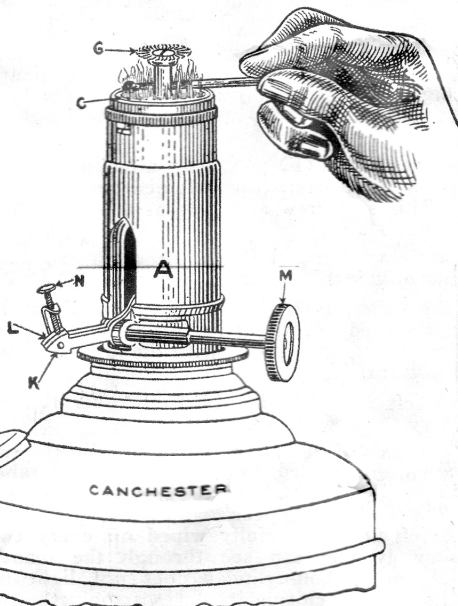

FIG. 3
5. TO LIGHT. (SEE FIG. 3.) Set the movable indicator (K) straight in line with the stationary indicator (L). Now light a match, letting it blaze up fully, and apply between the top of the carbon-cylinder and the spreader, lighting the inside of the carbon-cylinder all around. By holding the match in position shown in Fig. 3, the carbon-cylinder will light immediately. Allow it to burn about a minute until the flame has risen about four inches, then turn flame low and place the chimney holder with mantle and chimney on burner tube (A), sliding it down carefully, without jarring, as far as it will go.
6. TO REGULATE. After lighting, the mantle will not appear bright immediately but the gas will increase as the burner becomes hotter, and the mantle will gradually brighten to its full incandescence. The indicators (K and L) act merely as a guide. When they are in line sufficient gas should be produced to brighten the mantle in a few minutes, but as there are many grades of oil producing more or less gas you will have to sometimes set the movable indicator (K) slightly above, the stationary indicator (L), sometimes below.